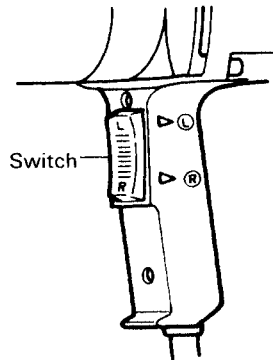

Fig. 4
1. Operation of switch (Fig. 4)